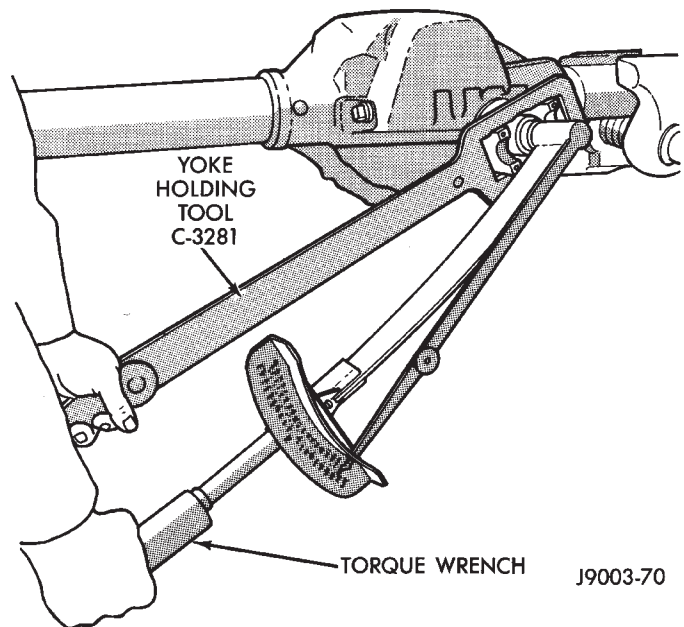

Fig. 8 Tightening Pinion Shaft Nut
(5) Position the pinion yoke on the end of the shaft with the reference marks aligned.
(6) Seat the yoke on the pinion shaft with Installer C-3718 and Wrench C-3281.
(7) Remove the tools. Install the Belleville washer. The convex side of the washer must face outward.
(8) Retain the pinion yoke with Wrench C-3281. Tighten the shaft nut to 285 N·m (210 ft. lbs.) torque (Fig. 8). Rotate the pinion shaft several complete revolutions to ensure that the bearing rollers are seated.